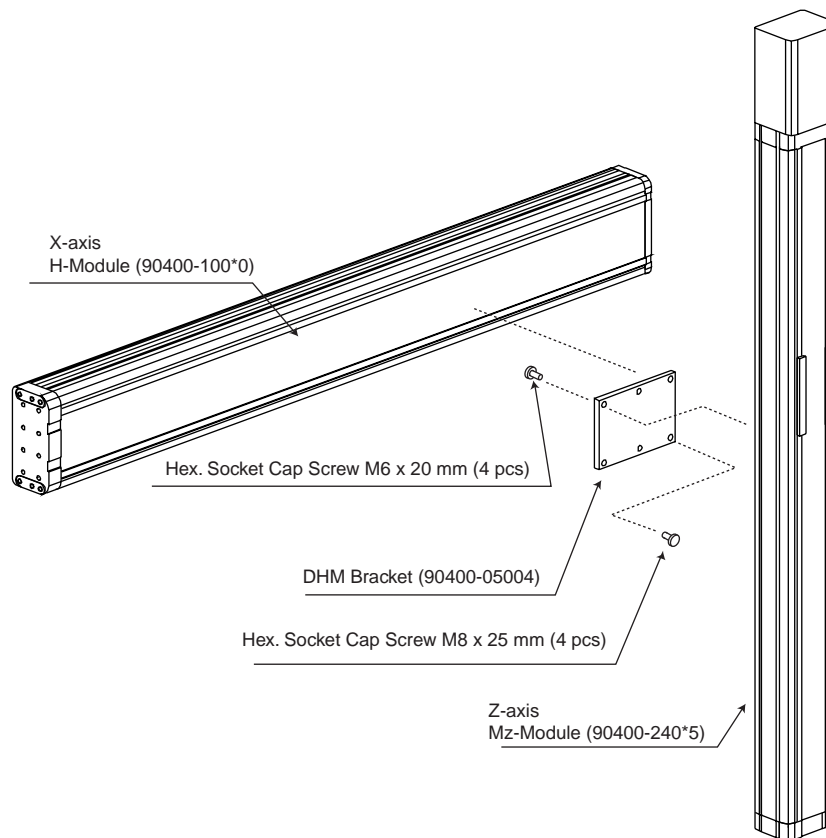

Figure 4-27. K-2 Type Mechanical Assembly
5. Mount the Z-axis to combining bracket. Install the mounting bolts (see Figure 4-27 and refer to Table 3-3 for mounting bolt specifications).